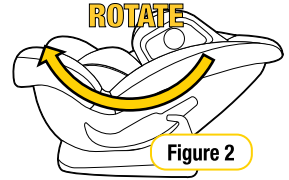

Figure 2
Step 2: Rotate the restraint into the appropriate recline angle. There are 3 Recline angles for Forward Facing. NOTE: Forward Facing recline indicator is visible (refer Figure 2)